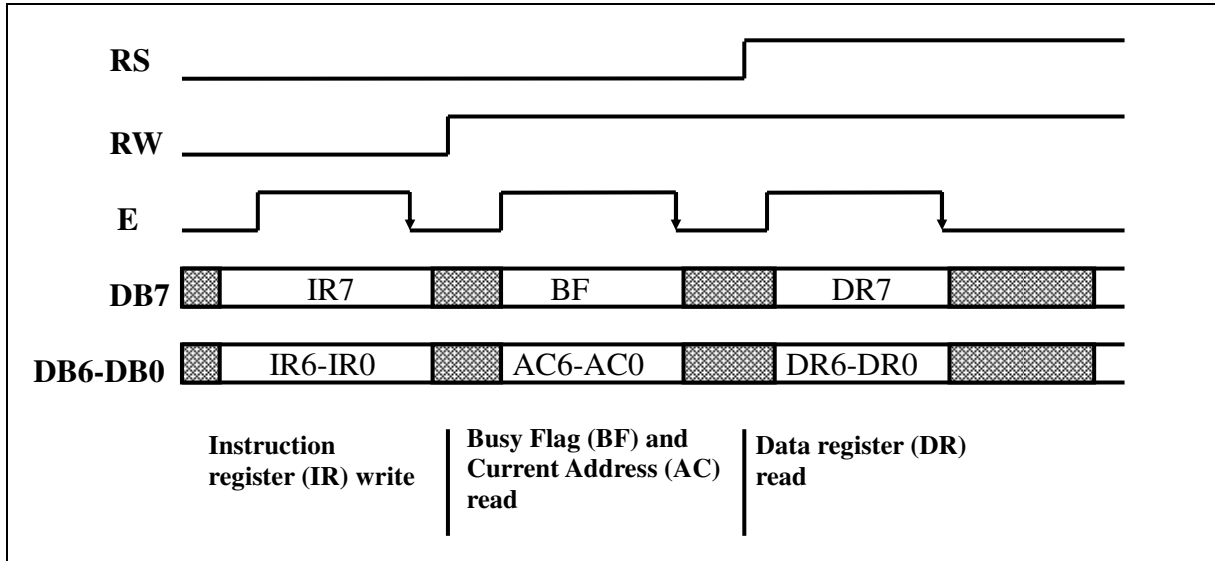

Figure 2. Example of 8-bit interface operation.
- In 8-bit mode of the bit interface all 8 bits of the data bus are used. The data are strobe by the falling edge of E signal. On the falling edge of the E signal an instruction execution is started and Busy Flag (BF) is set to “1” (see Figure 2).